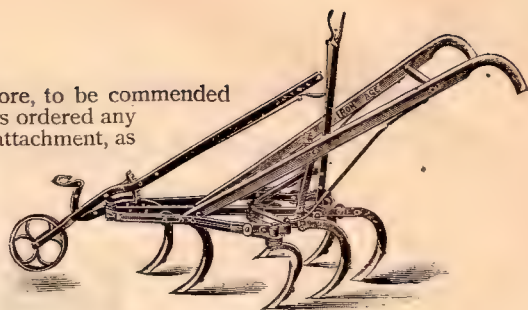

Fig. 71
**The Frame** of this tool is high and long, therefore it runs steady and with excellent clearance of trash. The Horse Hoe standards carry the cultivator teeth, as shown in Fig. 71,
The furrow-closing or 7-tooth attachment shown in Fig. 71, is a particular feature of our "IRON AGE" No. 6 and No. 7 Horse Hoes and Cultivators. The large number of these attachments sold since their introduction have been very gratifying, and all who have used them claim they are the greatest improvement made on cultivators for years. Very often has been heard this criticism on a five-tooth cultivator, and a well-founded one it is; that the rear tooth on each side bar, passing closely to the crop, leaves an open furrow which should by all means be closed. This is especially noticeable when the cultivator is opened wide—too wide to enable the centre tooth or sweep to close this furrow. It is the avoidance of this that makes the *better* work done by a two-horse cultivator working astride the row.